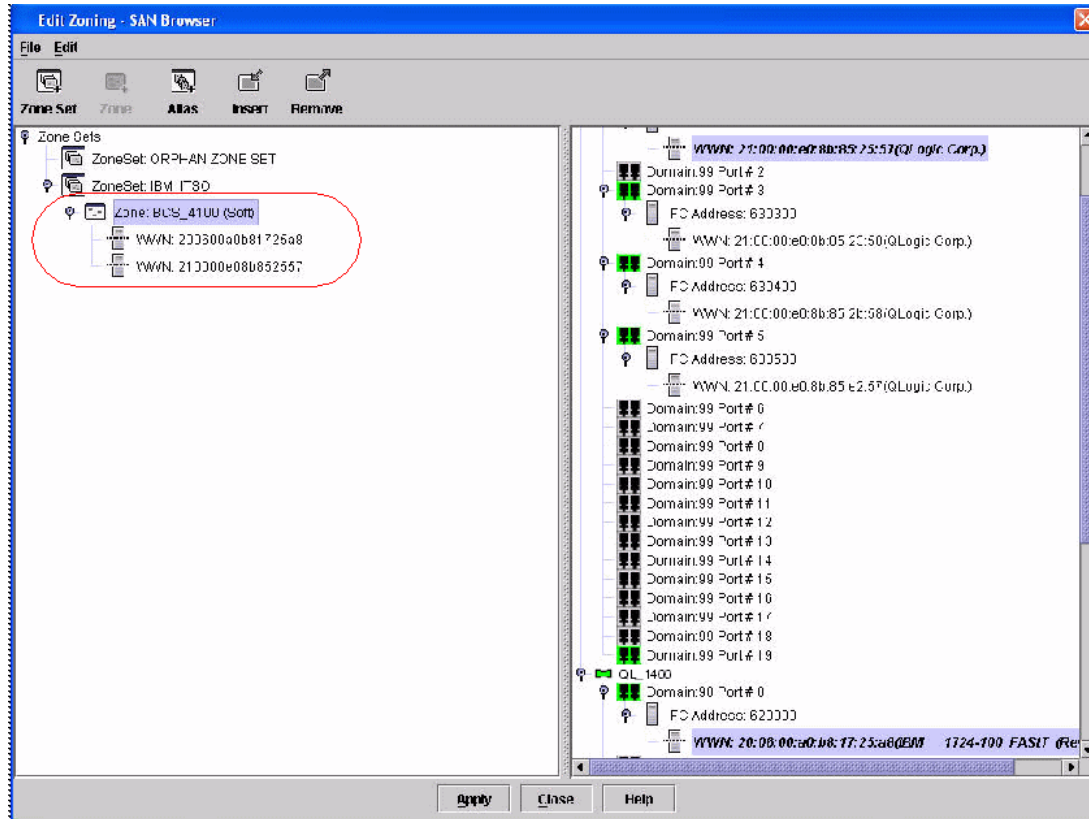

Figure 7-57 Edit Zoning - SAN Browser window
17. Once your zones have been created (Figure 7-57), click **Apply** to save your configuration.